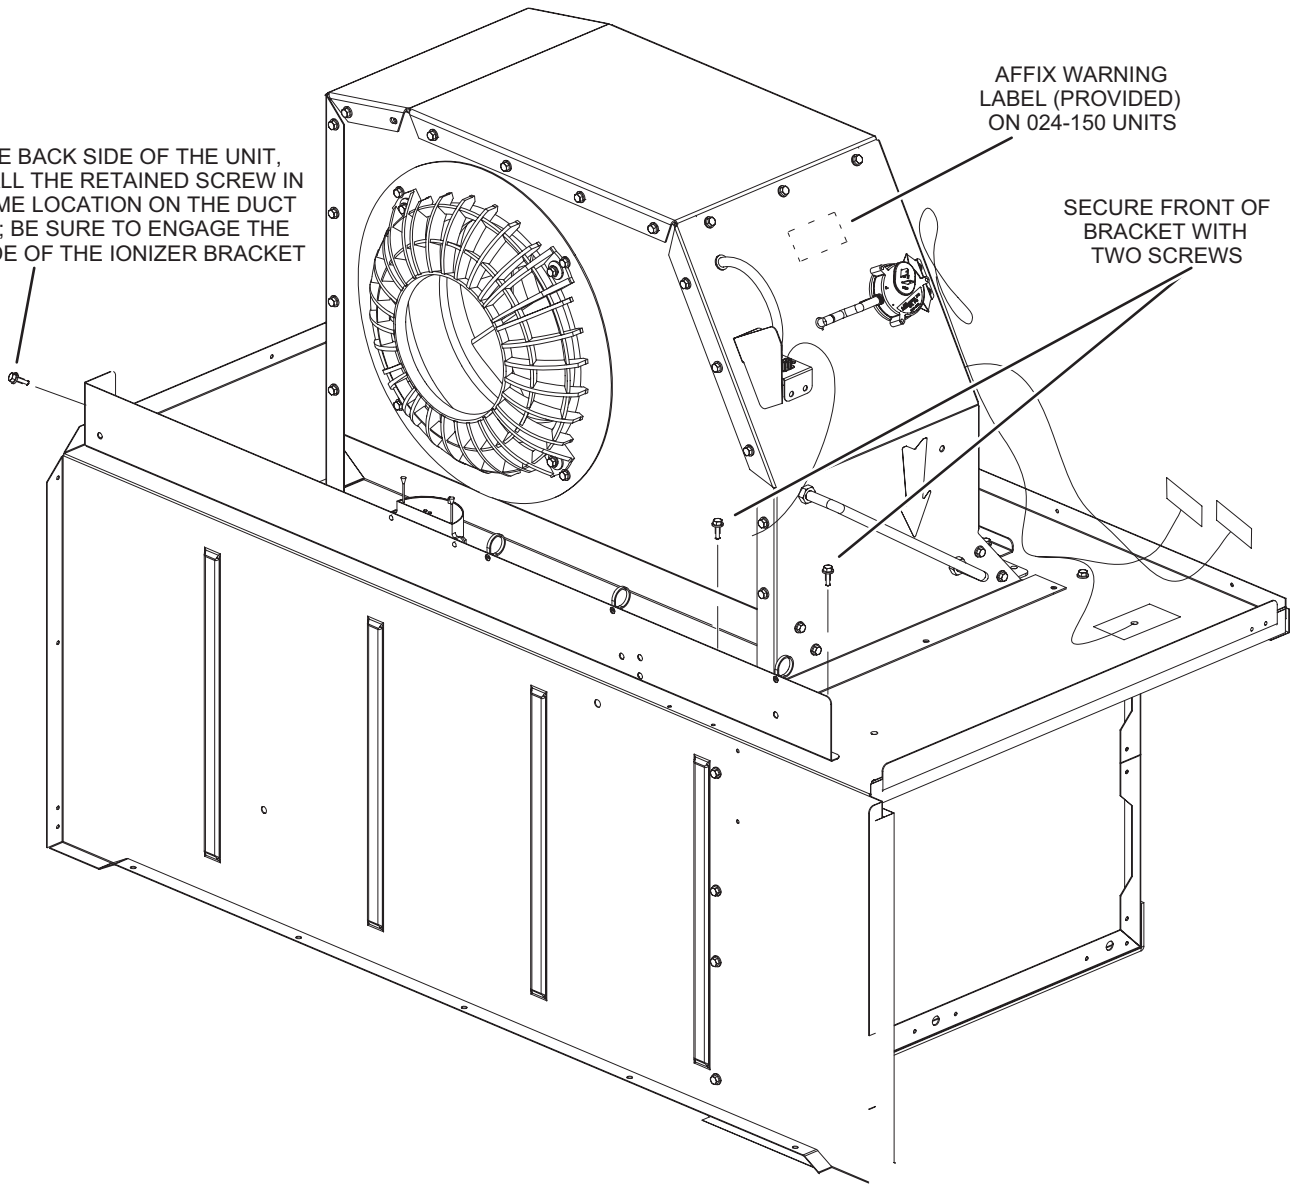

FIGURE 2
Affix warning label, provided in kit, in location shown in FIGURE 2 for 024-152 units and FIGURE 11 for 156-300 units.
- 2 - Install ionizer assembly on the blower deck to the left of the blower housing; secure with two provided screws. See FIGURE 2.
- 3 - On the back side of the unit, reinstall the retained screw engaging the back side of the ionizer bracket. See FIGURE 2.